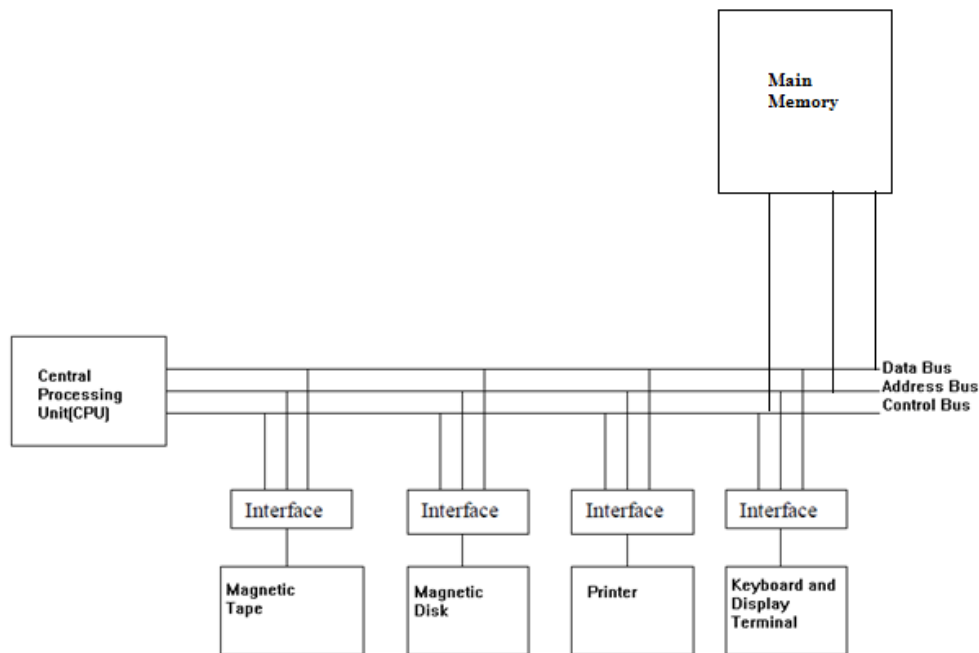

Figure 9: Interconnection of CPU and Peripheral Devices using Common Address, Data Bus Control Bus
3. The third alternative is to use all the busses i.e., data, addresses and control bus to connect the CPU with peripheral and memory. The same is shown below in Figure 9.